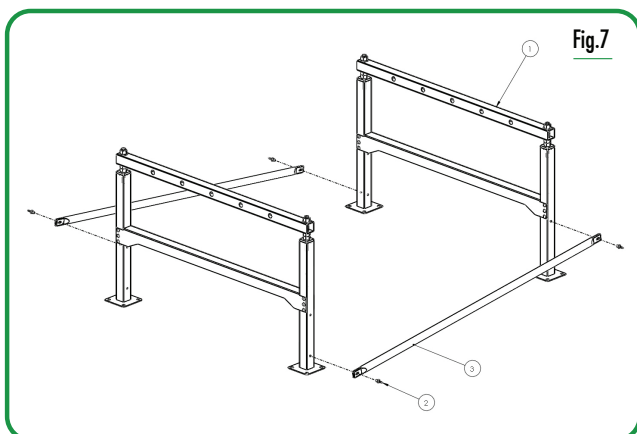

Fig. 7
2.2 Repeat the same operation also for the other SQUASHED BAR 1042,5mm (3) but anchor it inverting inclination a shown in Fig. 7